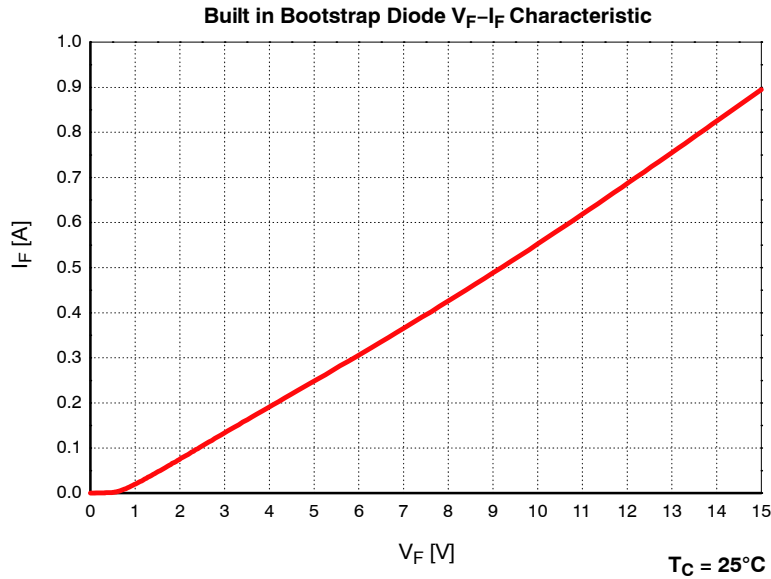

Figure 2. Built-in Bootstrap Diode Characteristics (Typical)
8. Built in bootstrap diode includes around $15\ \Omega$ resistance characteristic. Please refer to Figure 2.